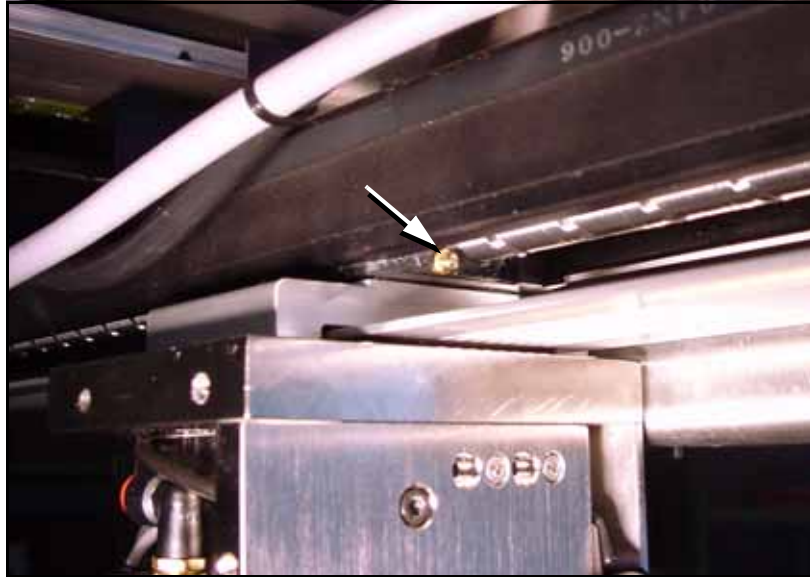

Figure 4-26: Grease fitting
- 3a. Apply NSK Grease (or equivalent) to the lead screw grease fitting using an MG70 (or equivalent) grease gun. See Figure 4-26.